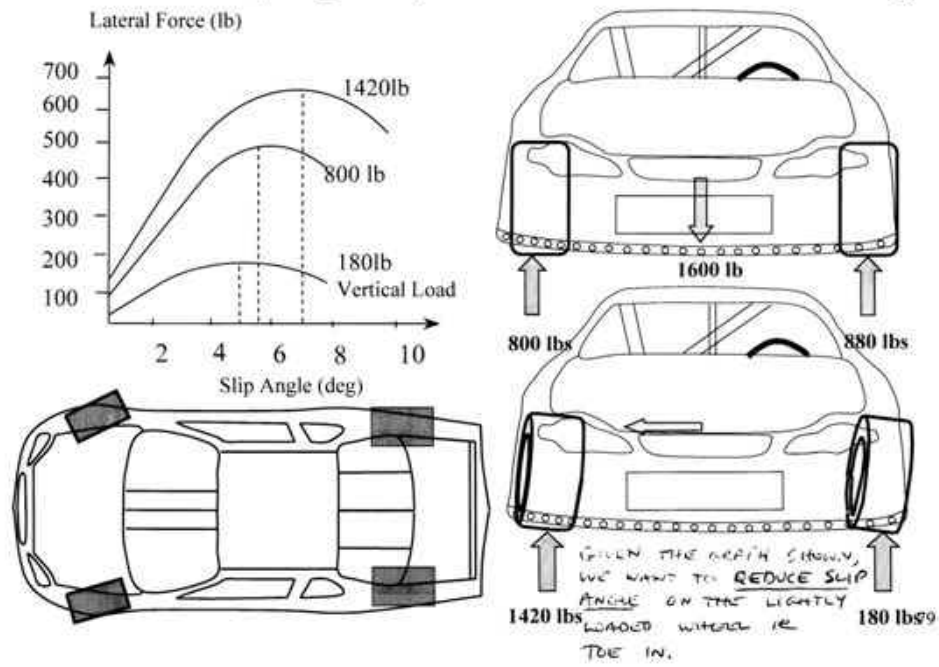

Figure 6a
To determine whether the race car will be better with dynamic toe in or toe out, pro or anti-ackerman, we need to test. Claude suggests a test, as per Figure 6a and 6b, where we analyse whether static toe in or toe out is best, in slow corners vs fast corners. I guess we should use a parallel steering set up, or close to, to do the test. Given that a slip angle variation side to side of one degree equates to a toe setting of 6mm, I think we could choose somewhere around that for our toe in and toe out test settings. It's a question of how sensitive the car is to toe change. It could be you need a toe setting of 10mm (in or out) to get a result from the test. A team who has done a lot of testing may already be aware how much will be significant. A rule of thumb is more toe (in or out) required for tyre operating on large slip angles (soft side wall), and less toe for low profile tyre operating on smaller slip angles (stiff side wall).
- If our race car is faster with toe in, we will use anti-Ackerman. This implies a tyre curve where the lightly loaded inside tyre has maximum grip at a lesser slip angle (Figure 6a)
- Sprint cars and similar speedway, dirt short circuits, can make a lot of use of varying degrees of pro-Ackerman. With dirt tyres we expect very large slip angles. Nascars and similar will use anti-Ackerman (Figure 6a).